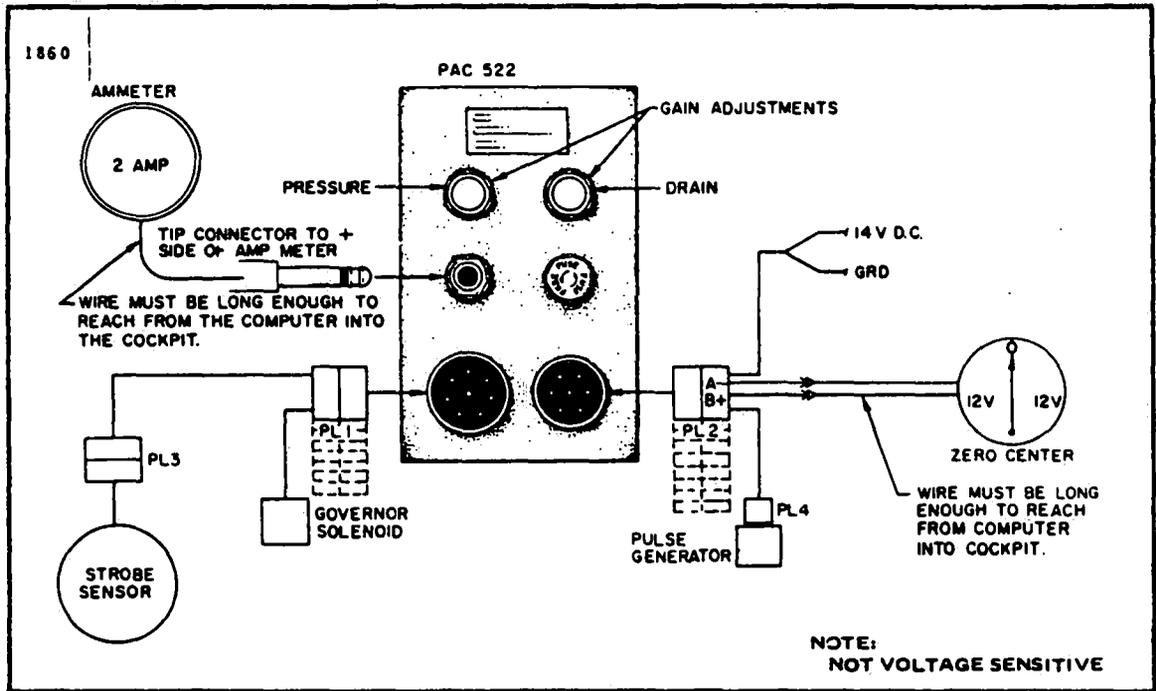

Figure 14-8. Fabricated Test Box
- (a) If the system operates in the manual mode but not in the phase mode, listen to the computer for an audible relay click when the system is switched from the manual mode to phase mode. The relay is on the bottom deck of the computer assembly. The use of a 2 amp meter and test plug will simplify this check. (Refer to Figure 14-8.)